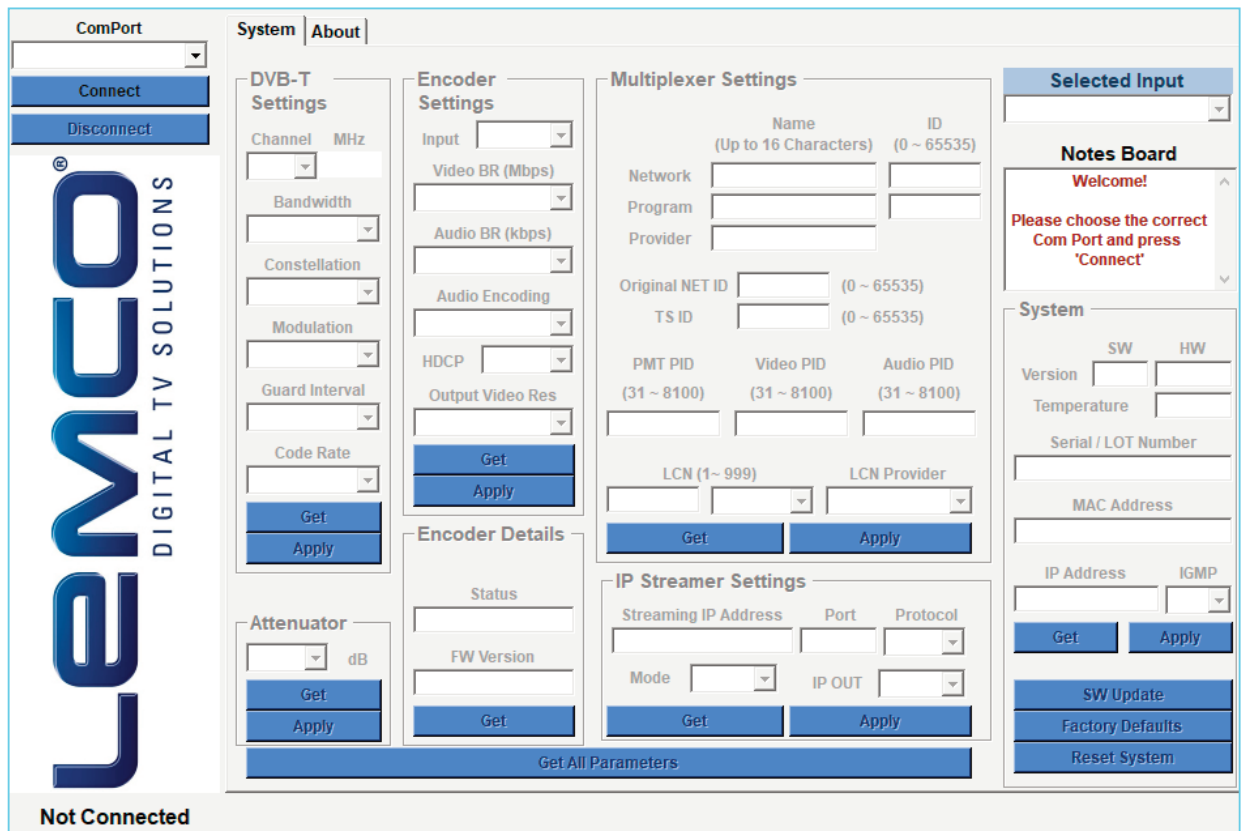

Figure No.2
5. Run the Lemco GUI xxx.exe file and the main screen will appear (Figure No 2):